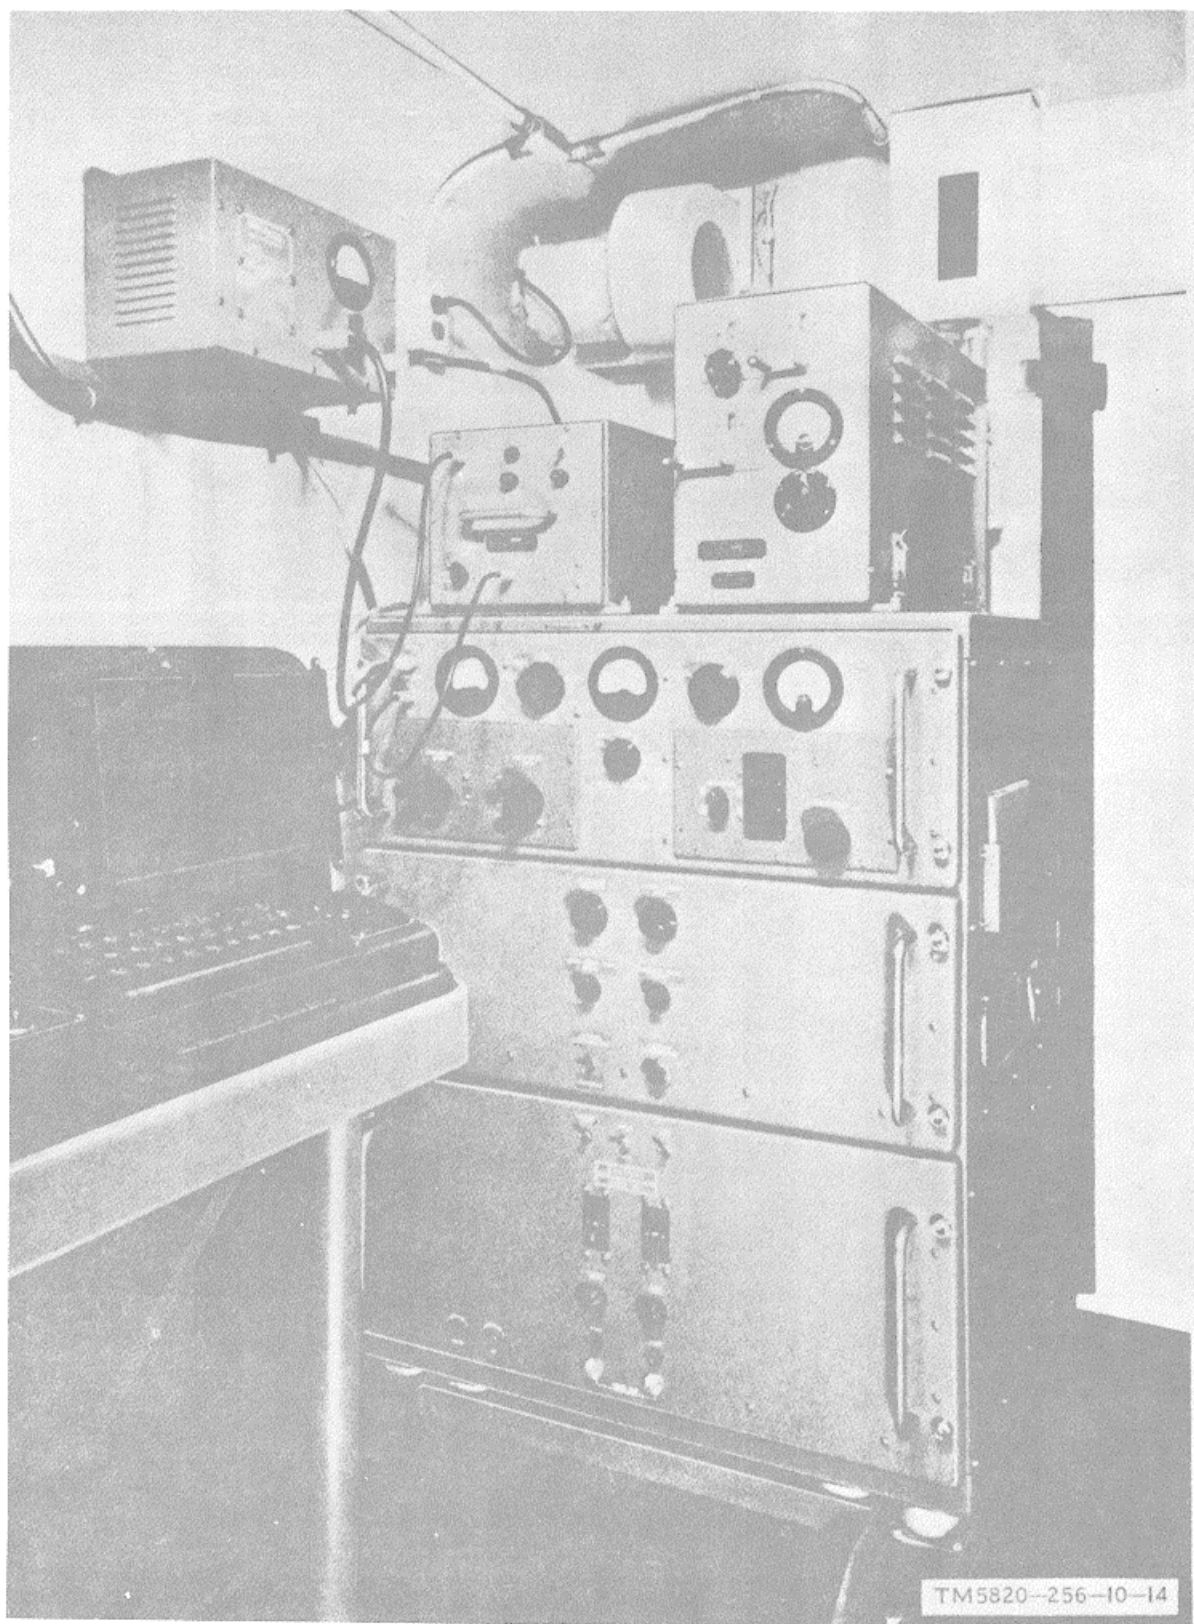

Figure 1-9. Radio Set AN/GRC-26D, interior view.
b. The power for the operation of the radio set is connected to the shelter circuit breakers through the power input feedthrough receptacle mounted in the rear wall of the shelter. The circuit breaker housing contains eight circuit breakers (fig. 1-9). Two are high current circuit breakers for the main alternating current (ac) line; four are low current circuit breakers; one is for the transmitter; one is for lights; one is for the heater and fans; one is for the remainder of the equipment; two are not connected.
(fig. 1-9)
1-17. Transmitter, Radio T368(*)/URT (fig. 1-9)
1-18. Standing Wave Ratio-Power Meter ME-1 65/G (fig. 1-9)
1-19. Tuner, Radio Frequency TN339/GR (fig. 1-9)